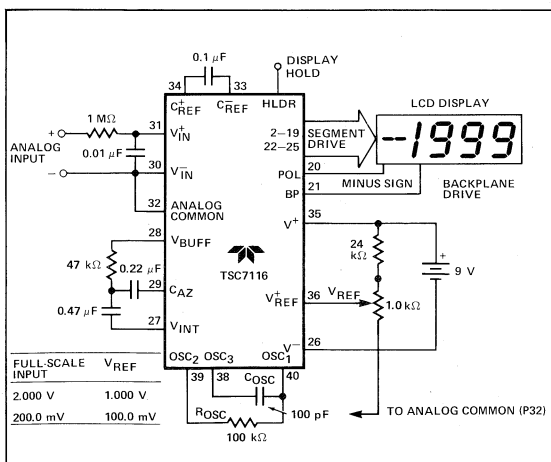
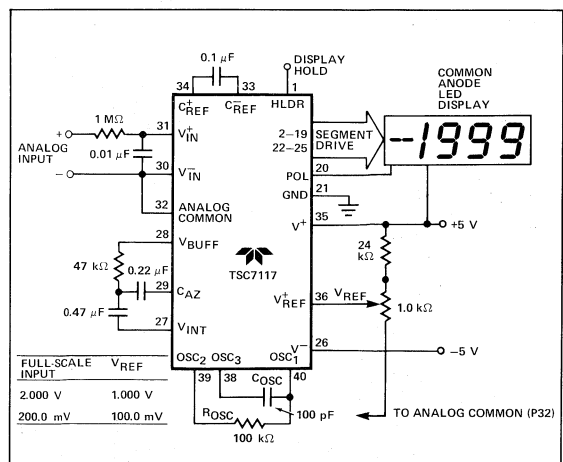

Figure 1: Typical TSC7116 Operating Circuit
Figure 2: Typical TSC7117 Operating Circuit
- Unless other wise noted, specifications apply to both the TSC7116 and TSC7117 at  $T_A = 25^\circ\text{C}$ ,  $f_{\text{CLOCK}} = 48\text{ kHz}$ . TSC7116 is tested in the circuit of Figure 1. TSC7117 is tested in the circuit of Figure 2.